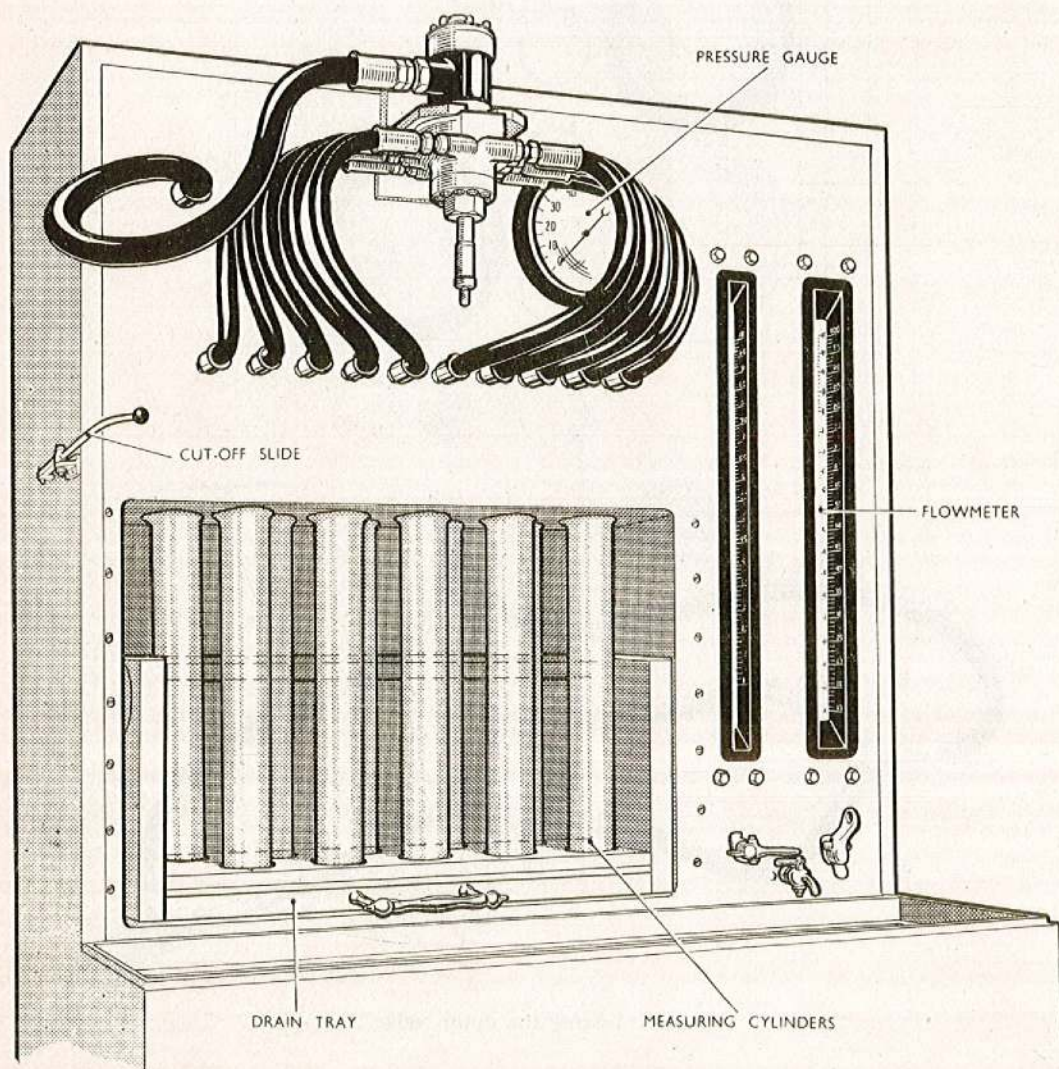

Fig. 7. Calibrating the ports
66. With a slave adapter fitted to the flow distributor in place of the dump valve, connect the unit to the metering port calibration rig as shown in fig. 7.